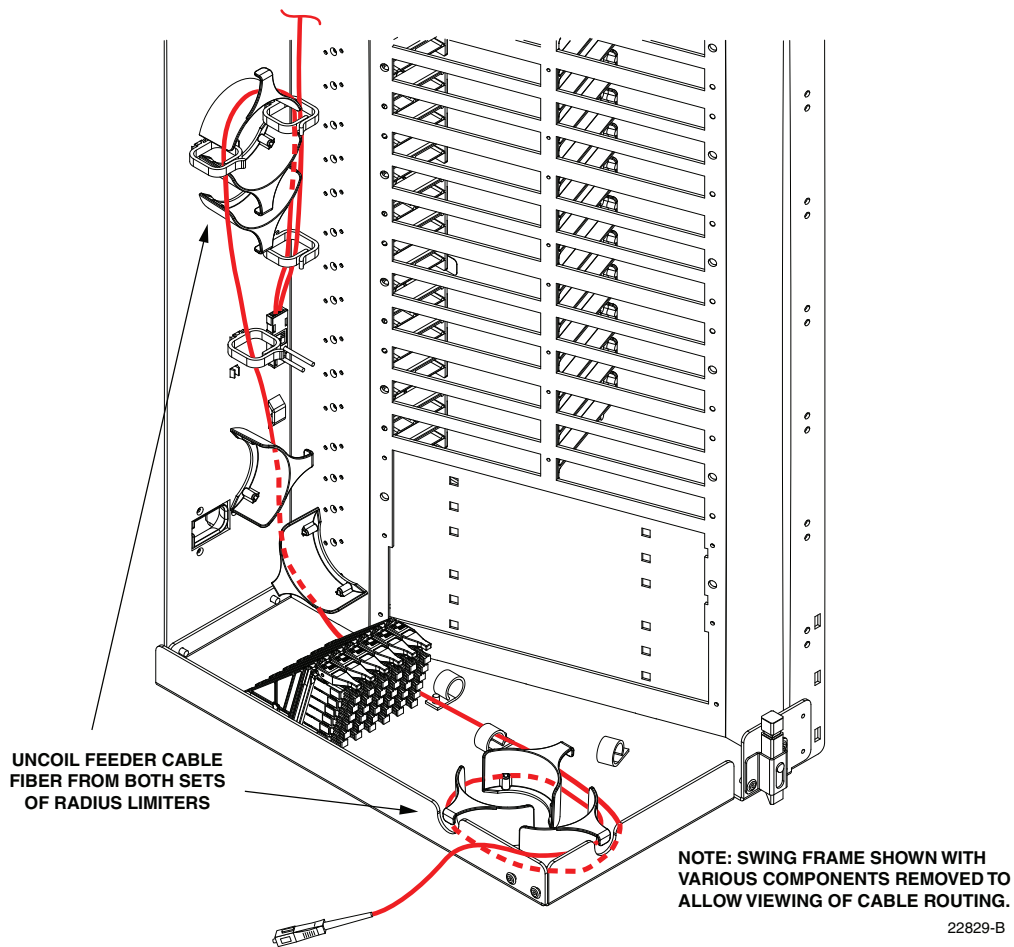

Figure 76. Uncoiling the Feeder Cable Fiber
6. Carefully unwind the feeder fiber from the radius limiters located on the bottom and on the left side of the swing frame. Figure 76 shows the section of the fiber that will need to be released for re-routing. When necessary, backfeed the fiber to free the connector from the remaining fibers.